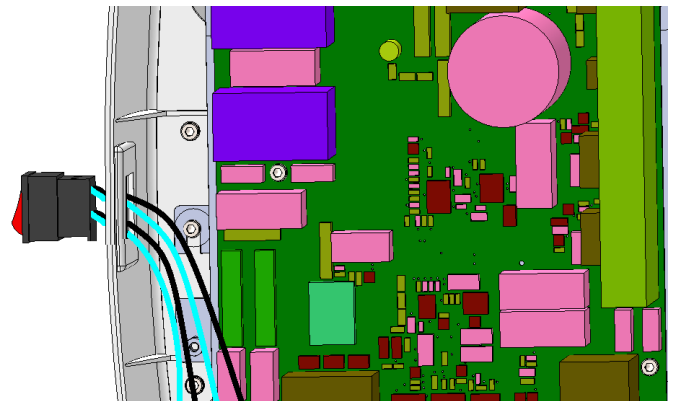

Figure 121
- Pull out defective switch from the base unit rear cover as shown in Figure 121 .
- Take the new switch and fix it in the base unit rear cover by inserting from outside as shown in Figure 121 .